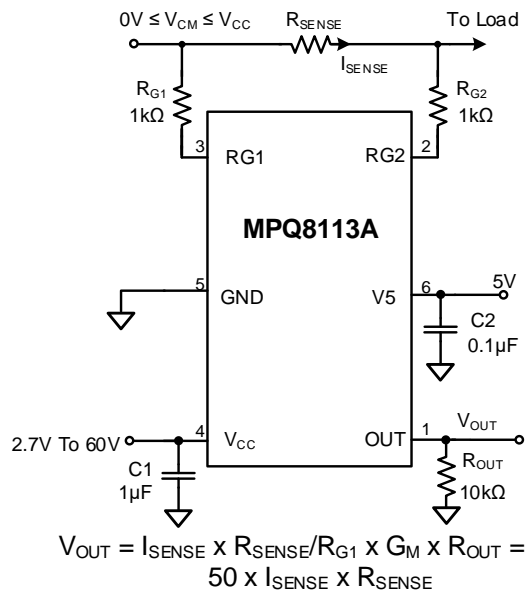

Figure 10: MPQ8113A ($A_V = 50V/V$ with $V_{CM} \leq V_{CC}$)
10) The recommended PCB layout is based on Figure 10.